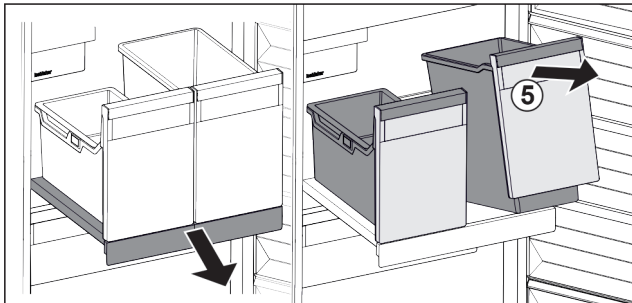

Fig. 82
- ▶ Lift the container Fig. 82 (5) at the front.